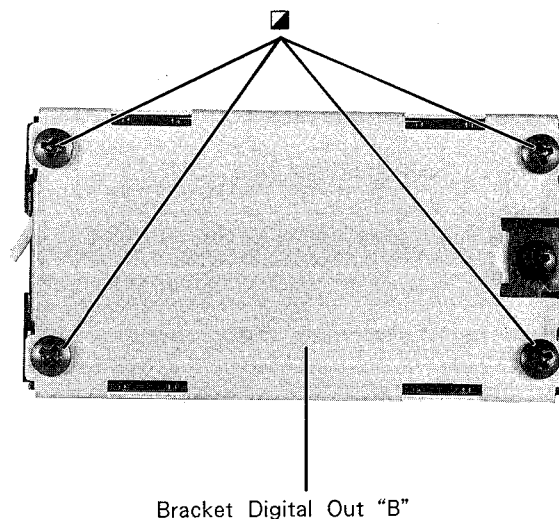

Figure 11
- (1) After removal of Assembly Digital Out remove four screws marked "■" as shown in Figure 11.